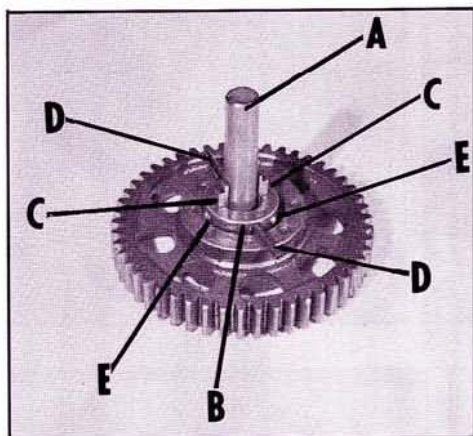

Fig. 21
3. Using a rod (A) Fig. 21, which is approximately  $\frac{1}{2}$ " in diameter and 4 or 5 inches long, insert the rod (A) down into the shifting collar (B) as shown. Insert the two keys (C) into the keyways of the shifting collar (B) as shown in Fig. 21. Make sure the two roll pins (D) are still in place and that the three balls (E) are still inserted into the indents of the shifting collar.